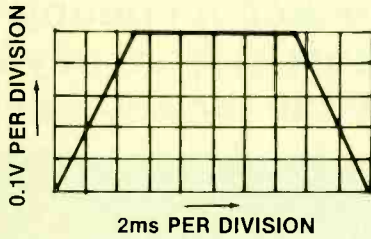

Figure 1. What is the rise time of this waveform?
Refer to September '87 edition, page 60, Figure 1. It would seem that the ideal way to keep the battery manufacturers in business is to build in a permanent short circuit.
- The rise time of the waveform in Figure 1